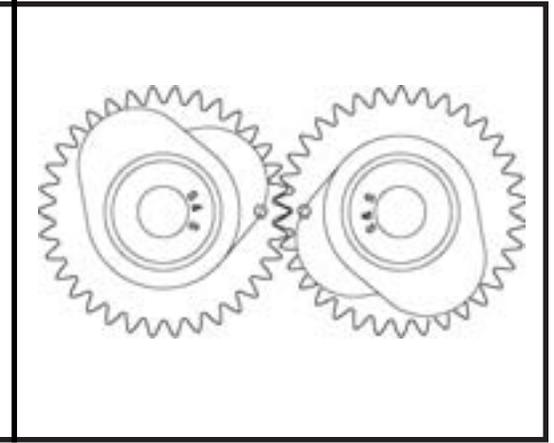

Figure 3
4. Apply assembly lube to outer bearing surface of rear (longer) camshaft and inner race of rear bearing. Support bearing by inner race and with camshaft gear timing marks aligned (**See Figure 3**), press camshaft all the way into bearing.